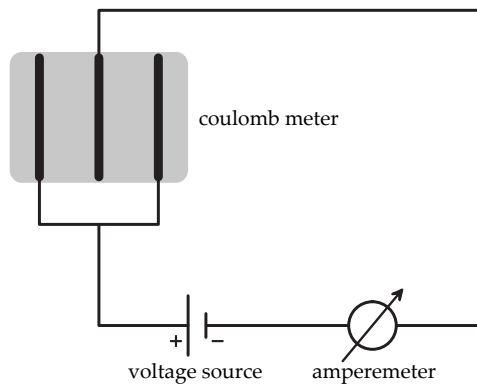

Figure 1.3: Experimental set-up
- Place the copper electrodes into the gray plastic basin and connect the cables according to figure 1.3.